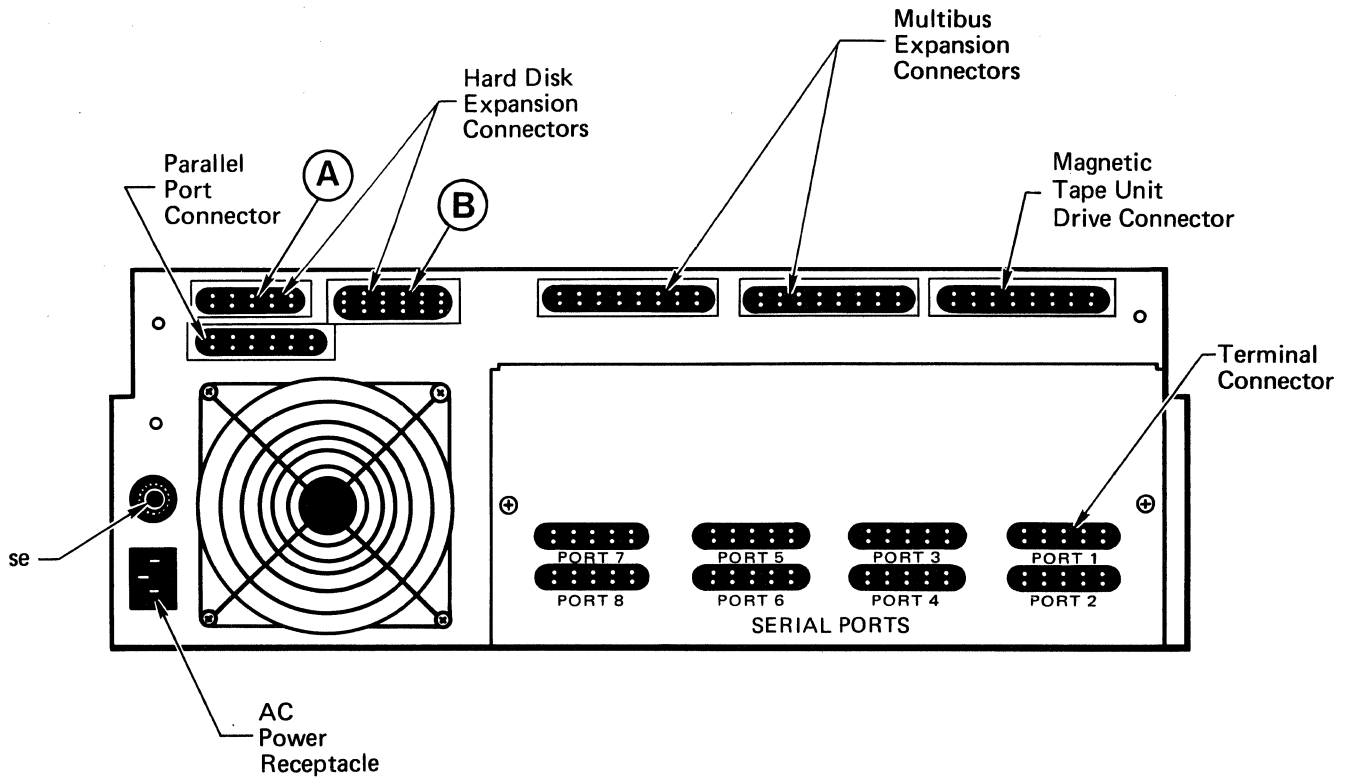
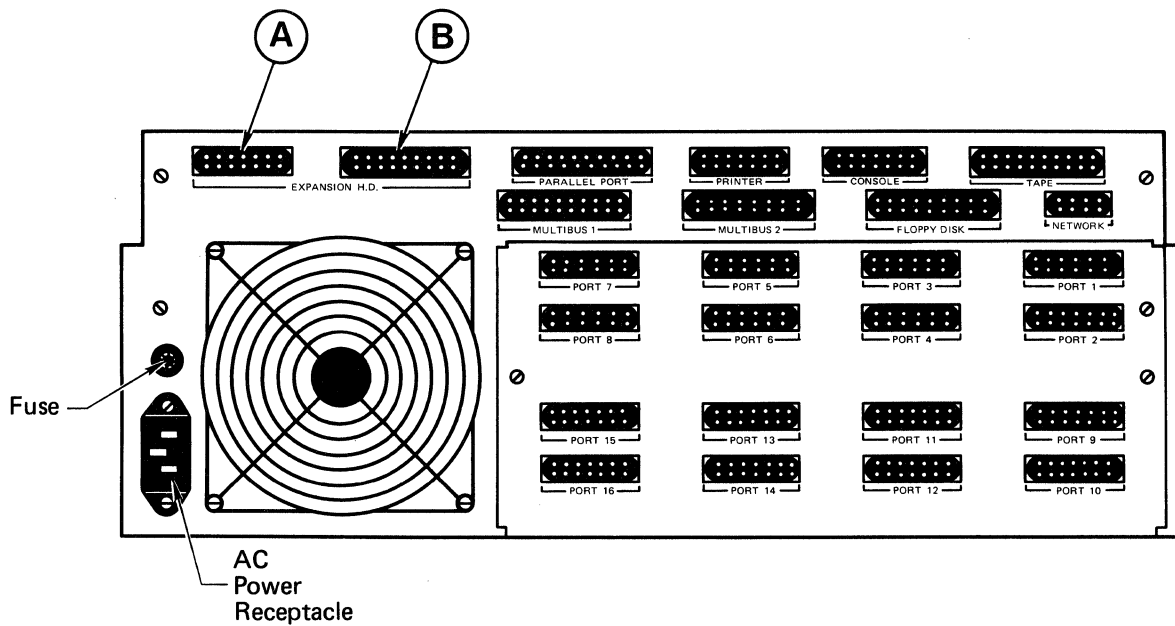
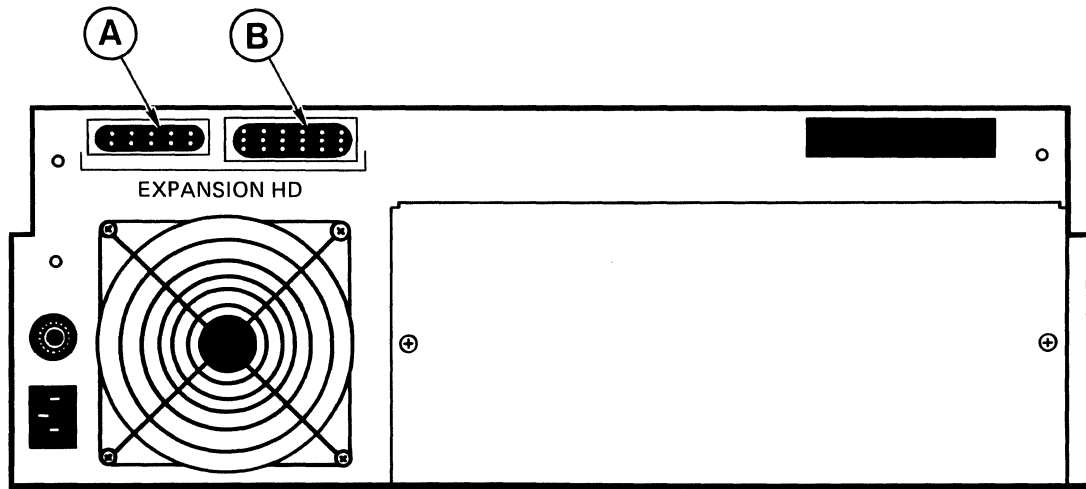

Figure 2-4. ACS 8600 Main Chassis Rear Panel
Figure 2-5. ACS 68000 Main Chassis Rear Panel
Figure 2-6. Hard Disk Peripheral Chassis Rear Panel
11. Use a 3/16" nut driver and needlenose pliers to remove the two standoffs from the 50-pin back panel connector (labelled B in figures 2-4 and 2-5). **Placing tissue directly under the nuts before their removal can prevent their dropping into the chassis should they slip from the needlenose pliers.**
1. Attach the 72-inch, 25-conductor interconnect cable from the 25-pin hard disk expansion connector on the main chassis (labelled A in the main chassis figures) to the 25-pin connector on the peripheral chassis rear panel (labelled A in the peripheral chassis figure). Figure 2-4 shows the rear panel of the ACS 8600 main chassis. Figure 2-5 shows the rear panel of the ACS 68000 main chassis. Figure 2-6 shows the hard disk peripheral chassis rear panel.
2. Attach the 72-inch, 50-pin interconnect cable from the 50-pin hard disk expansion connector on the main chassis rear panel (labelled B in figures 2-4 and 2-5) to the 50-pin connector on the peripheral chassis rear panel (labelled B in figure 2-6).
3. Re-connect the three-pronged power cord to the main chassis rear panel (Figures 2-4 and 2-5), and plug the other end into an ac power source (wall plug, etc.).